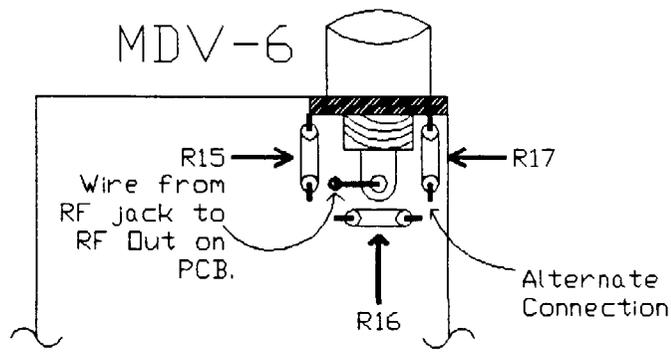

Figure 2
- MDV-6 Junction of R16 and R17 (on R16, this is the end closest to the RF case; on R17 it is the end closest to the keyboard, see Figure 2).